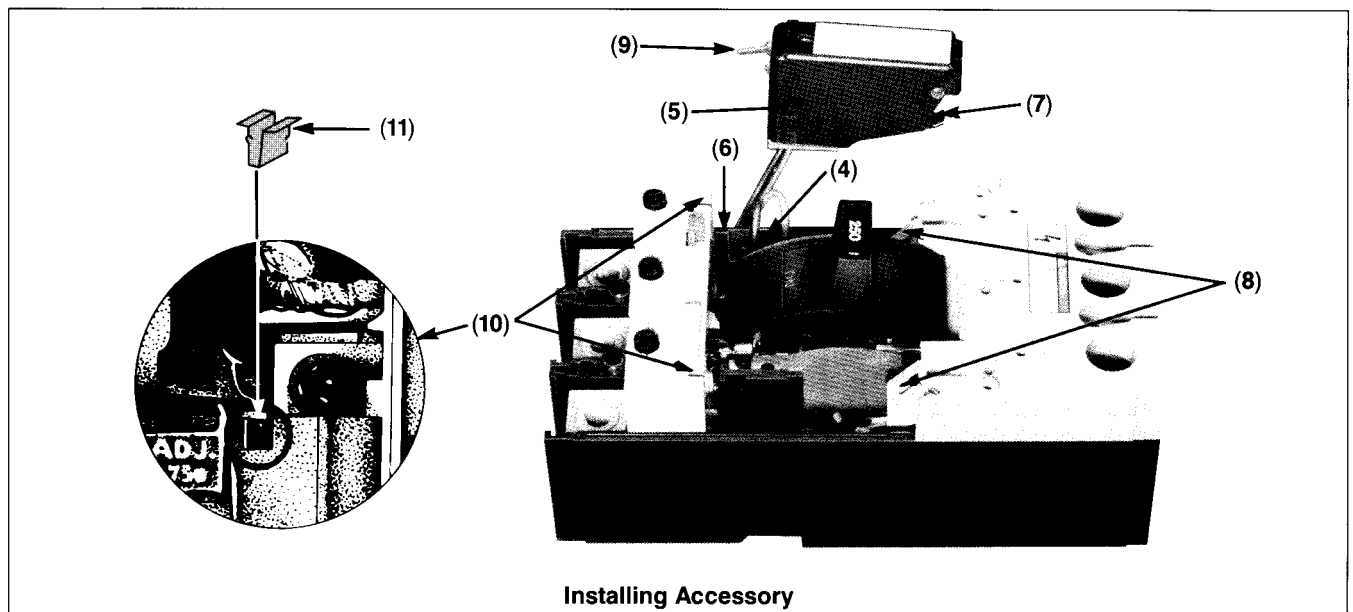

Figure 3
- A. Feed accessory leads down and through $1\frac{5}{16} \times \frac{5}{32}$ in. elongated opening (4) to bring leads out of bottom of circuit breaker (Figure 3). **NOTE:** Leads must be brought out in the same order as they exit wire retainer of accessory case.
- B. Accessory is located in circuit breaker by two ribs (5), one on each side of accessory.